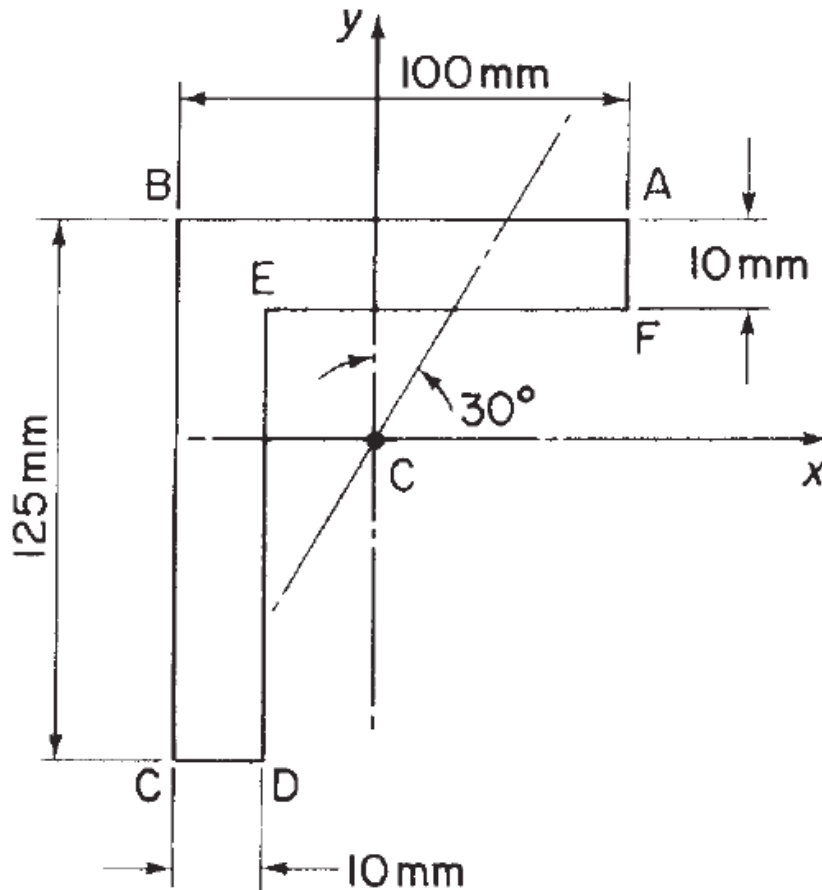

Figure: 4
- 10) Explain why determining shear centre is important in structural analysis. (2)
- 11) Elaborate the various steps involved in finding the shear flow and shear centre of a closed section. (4)
- 12) Figure 4 shows the section of an angle purlin. A bending moment of 3000Nm is applied to the purlin in a plane at an angle of 30° to the vertical y axis. If the sense of the bending moment is such that its components M_x and M_y both produce tension in the positive xy quadrant, estimate the maximum direct stress in the purlin stating clearly the point at which it acts. (4)